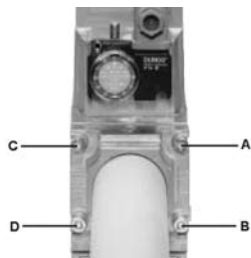

Fig. 8
1. Loosen screws A and B **do not** unscrew (Fig. 8 - Fig. 9).
2. unscrew screws C and D (Fig. 8 - Fig. 9).